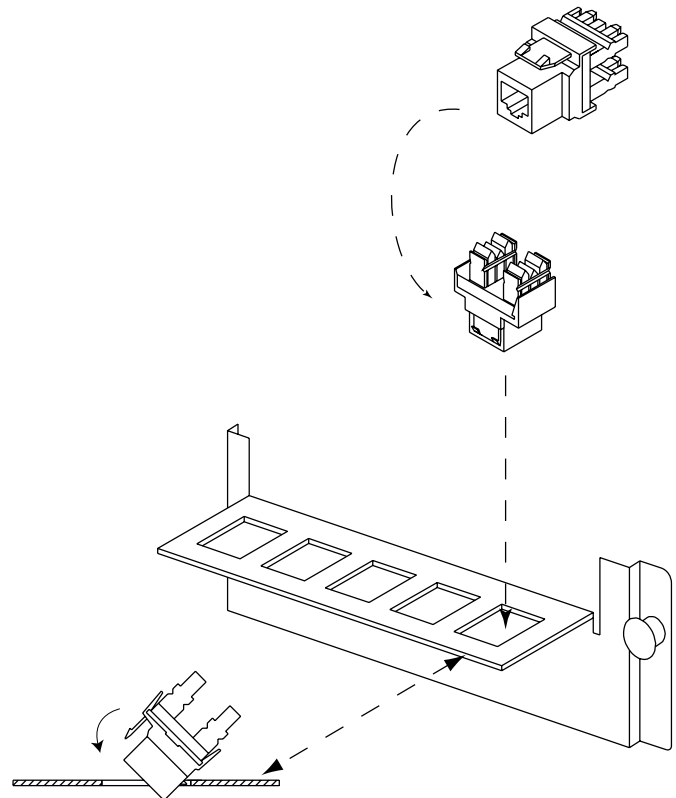

Figure 4
- 2) Install terminated connectors into module; snap in place as shown in *Figure 4*.